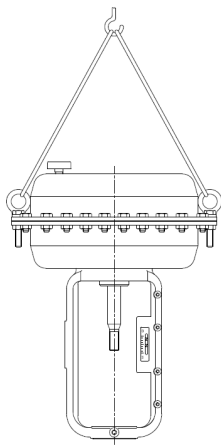
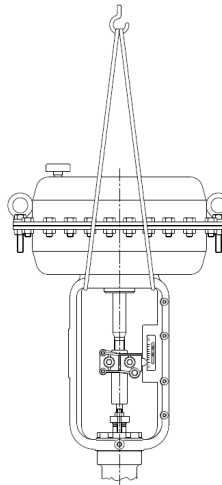

Fig. 1.
Fig. 2.
- When hoisting up the actuator from its packing, use a standard belt suited to lift the actuator. Use two pairs of lifting rings in a way that the load is applied to them equally. See Fig. 1. However, if the control valve is hoisted up with the actuator, do not use lifting rings, but hoist the control valve as illustrated in Fig. 2. Failure to observe these instructions may allow the hoisted control valve to drop and injure or may cause damage to the actuator.